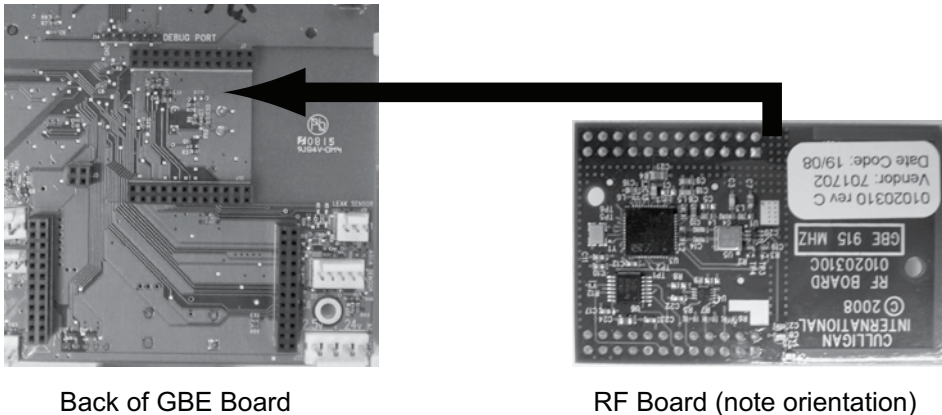

Figure 46. RF board location on GBE board.
7. Open the control and connect the RF board into the controller circuit board. Make sure the RF board is fully seated into all of the sockets (see Figure 46).
9. Install RF board into unit controller. Line up pins in RF board and press firmly into black connectors. Note orientation of RF board in Figure 46.